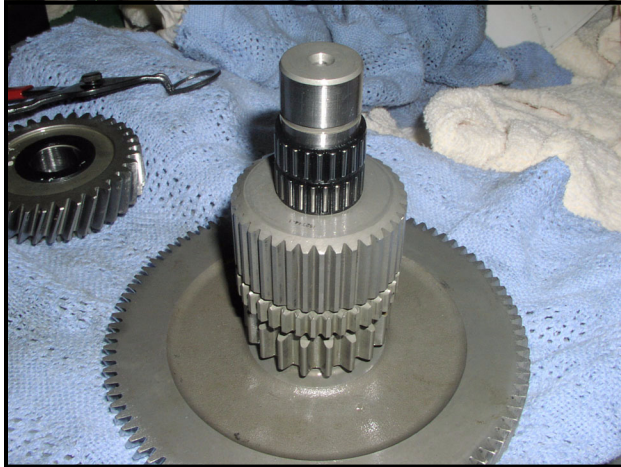

Figure 8-69 Small Helical Gear Bearings
10. Position the intermediate shaft with the small helical gear end up and large helical gear down against the service fixture, and slide new roller bearing assemblies onto the gear race (**Figure 8-69, Page 8-21**).